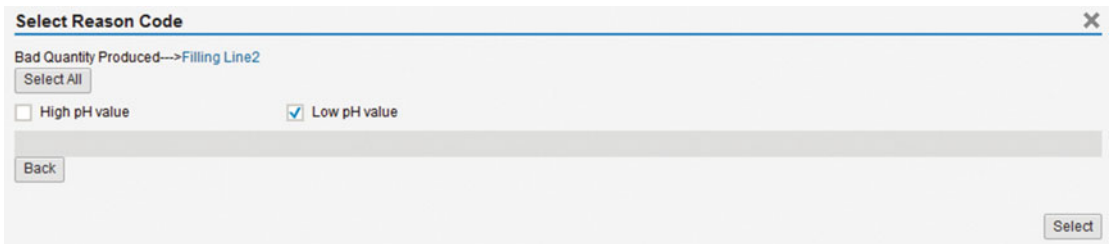

Figure 5-21. Reason code configuration: assign reason code
4. Click on the “Assign” link and select the level, that which is more relevant, as shown in Figure 5-21.